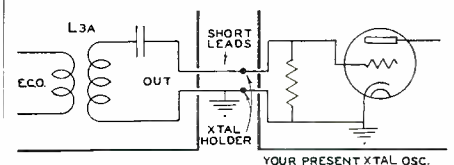

Fig. 2A. Coupling to former xtal mount.
- L₃—(A) 10 turns No. 22 D.C.C. close wound on plate end of coil for direct coupling to grid of present crystal oscillator.
(B) 3 turns No. 22 D.C.C. close wound if remote control operated with link of 3 turns to grid or cathode coil of present xtl oscillator C₈ may be eliminated. (See Fig. 2A) Oscillator output is 7 meg